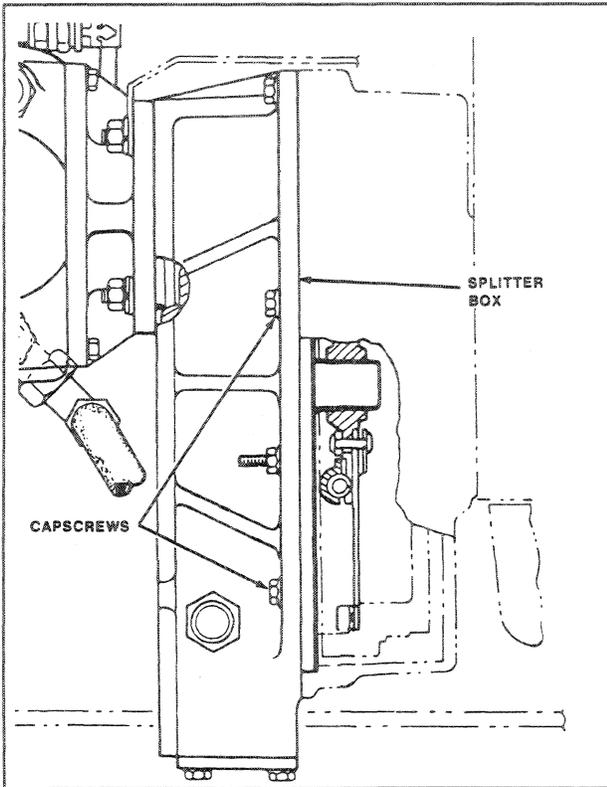

FIGURE 2-14: Splitter Box Mounting
17. Remove capscrews securing the splitter box to the flywheel housing, ensuring that splitter box weight is supported (Figure 2-14).
18. Raise splitter box until weight is taken off the flywheel housing and slide splitter box back to free it from the flywheel housing and the torsional damper splines. Lower splitter box onto the axle frame. Ensure that it is properly blocked and supported (Figure 2-14).
6. Attach the lifting fixture to the splitter box assembly, and lift the splitter box off the axle frame. Slide the splitter box forward, engaging splines on the torsional damper. Install cap-screws and lockwashers and tighten securely (Figure 2-14).